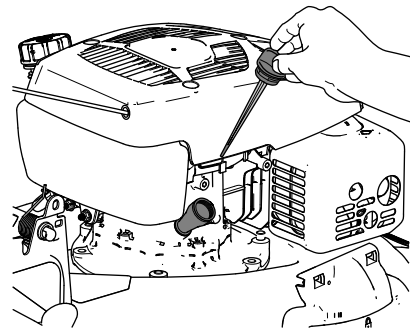

Figure 26
3. Remove the dipstick by rotating the cap counterclockwise and pulling it out (Figure 26).